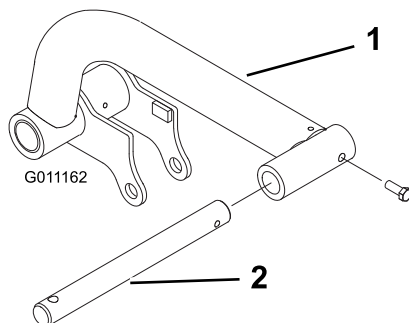

Figure 7
1. Insert a pivot rod into each lift arm and align the mounting holes (Figure 7).